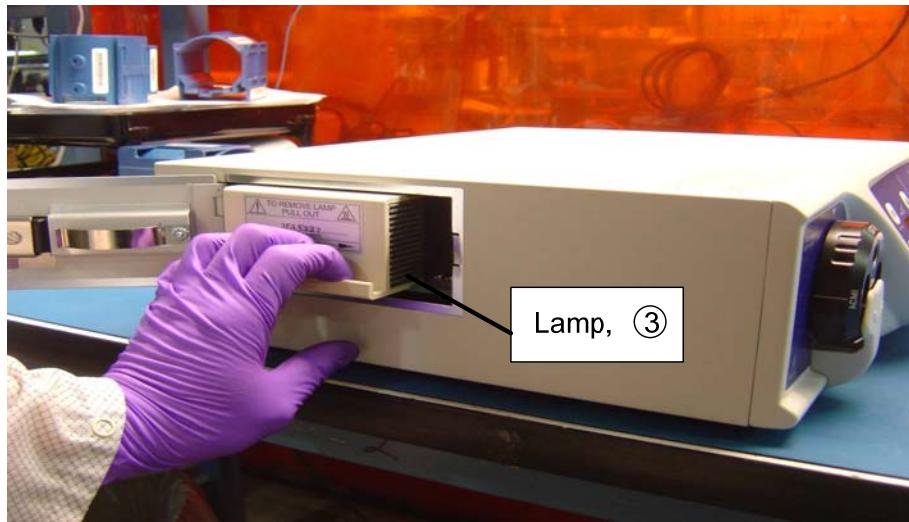

Figure 5
- 5 Grasp the handle and pull the entire lamp module out of the ProXenon 350 Surgical Illuminator – Figure 5.